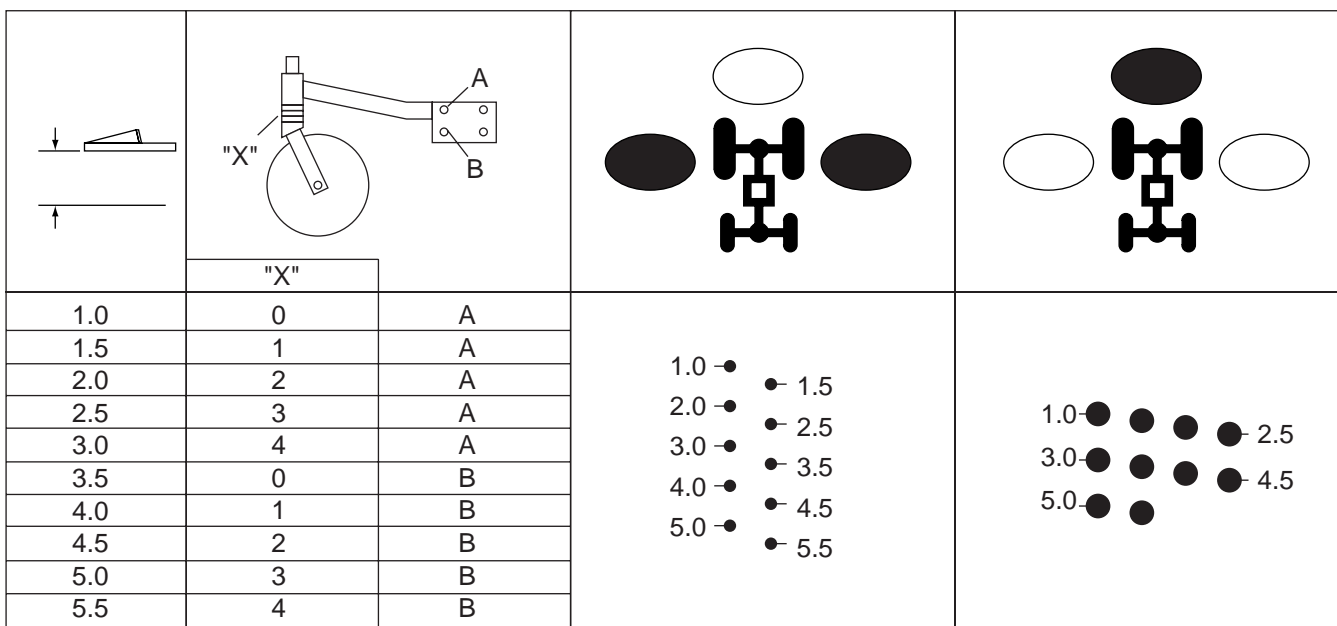

Figure 3P
2. **Figure 3P** shows the height adjustment decal for the casters.